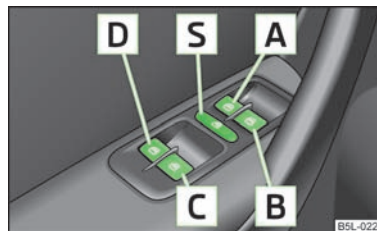

Fig. 18
- It is recommended to deactivate the electrically operated power windows in the rear doors (safety pushbutton [S] » Fig. 18 when children are being transported on the rear seats.
The buttons for the individual windows are located in the armrest of the driver's door » Fig. 18, front passenger seat and in the rear doors » page 40.
The buttons for power windows in the rear doors can be deactivated by pressing the safety pushbutton **S** » Fig. 18. The buttons for the power windows in rear doors are activated again by pressing the safety pushbutton **S** again.